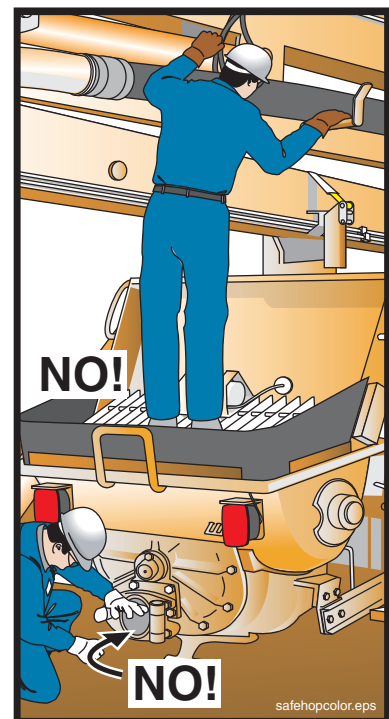

Figure 20
6.25 **⚠ WARNING** Crushing/amputation hazard. Never put your hands, feet, or any other body part into the water box, concrete valve, or hopper when the hydraulic system is operational or ready to operate! (See Figure 20.)